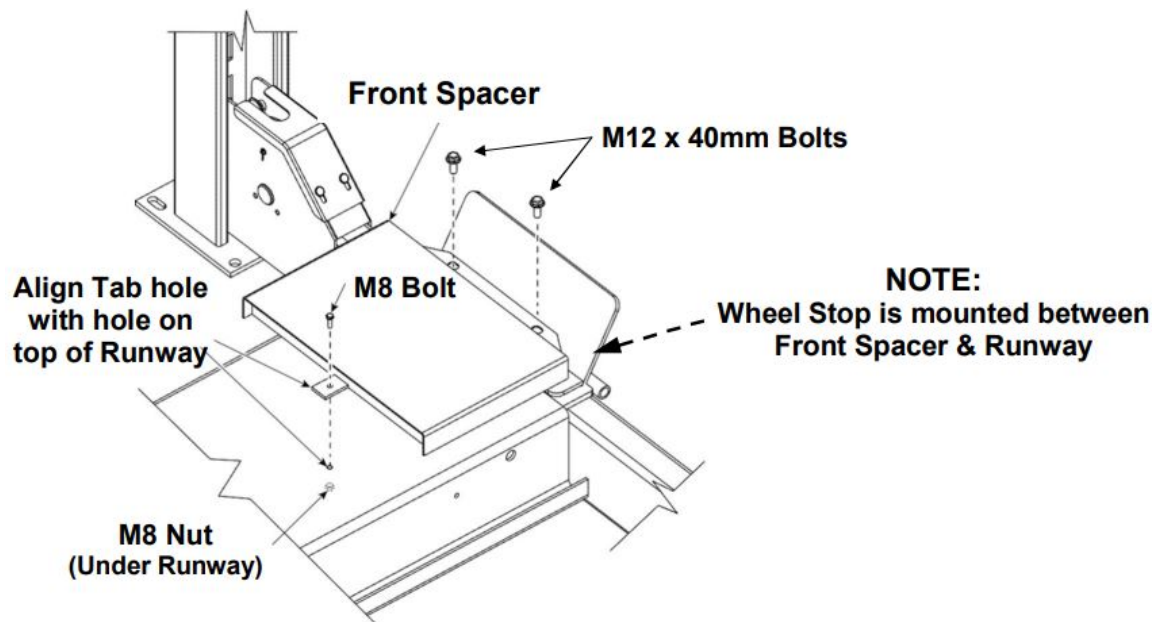

Fig. 2
2. Position the Front Spacer (#2) on Runway, so the bolt holes align with the Wheel Stop holes and the center hole in Runway – Fig. 2.
3. Secure back of Front Spacer to Runway using M8 Bolt & Nut, while also securing the front using M12 x 40mm Bolts – Fig. 2.